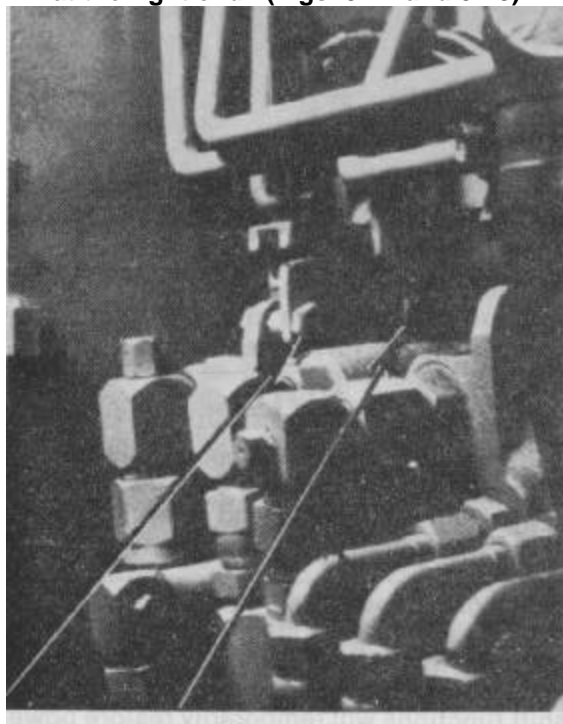

Figure 3-17
First determine that the handle shaft support plates are securely attached to the lift valve body at the left end and the stack valve body at the right end. (Figs. 3-17 and 3-18).
3.46.5 Tighten the two 3/8-16 hex bolts and nuts that attach the handle pivot shaft support plate to the lift valve body. The two bolts and nuts are located at the left, inlet end, of the lift valve (Fig. 3-17).
Tighten both bolts with 9/16 inch wrenches. The arrow in figure 3-17 indicates the two bolts to be checked and tightened.